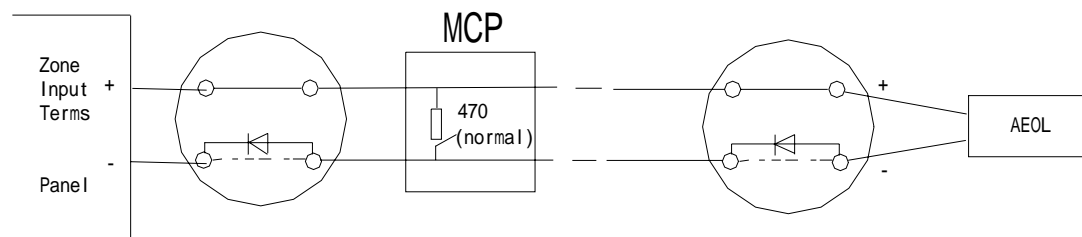

Fig.5.4.2b
- (2) In the loop, the detectors and manual call points can be connected at any position and an Active End of Line Unit (AEOL) is connected at the end of the loop. A diode should be connected on the detector base (Fig.5.4.2b).